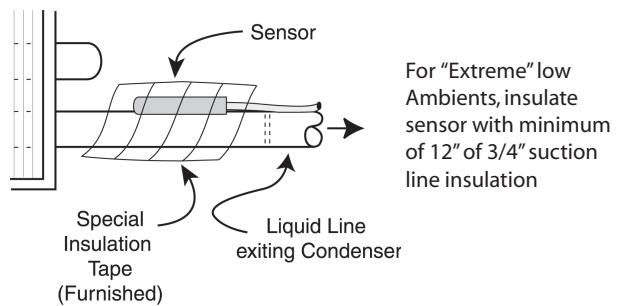

Figure 1 - Sensor Installation
- Install the supplied 10K Sensor to the top of liquid line where the line exits the condenser coil as shown in Figure 1, Sensor Installation.